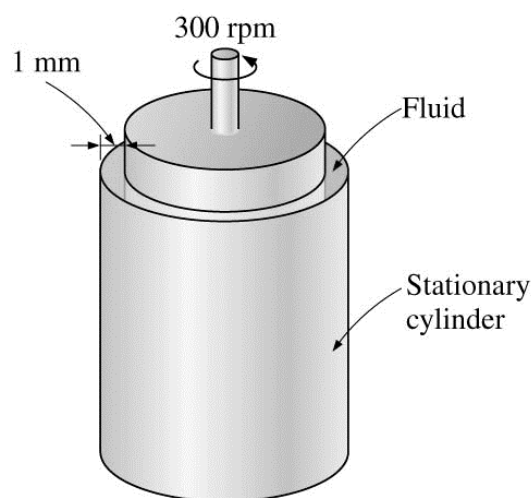

Figure 1
- (e) Viscosity of a fluid is to be measured by a viscometer constructed of two 75 cm long concentric cylinders as shown in **Figure 1**. The outer diameter of the inner cylinder is 15 cm and the gap between the two cylinders is 1 mm. The inner cylinder is rotated at 300 rpm. The torque is measured to be 0.8 Nm. Determine the viscosity of the fluid.